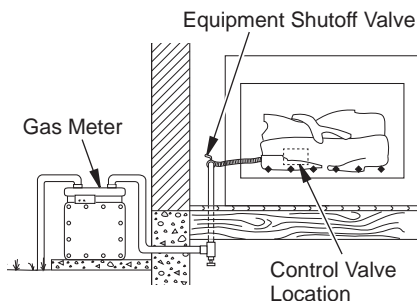

Figure 15 - Checking Gas Joints for Natural Gas
3. Check all joints from gas meter to equipment shutoff valve for natural gas or propane/LP supply to equipment shutoff valve for propane/LP (see Figure 15 or 16). Apply noncorrosive leak detection fluid to all joints. Bubbles forming show a leak.
4. Check all joints from equipment shutoff valve to control valve (see Figure 15 or 16). Apply noncorrosive leak detection fluid to all joints. Bubbles forming show a leak.